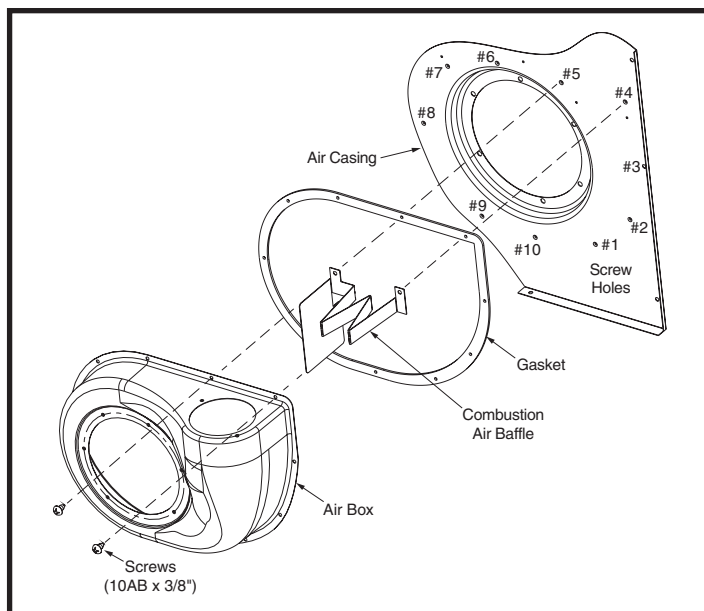

Figure 3. Combustion Air Baffle Assembly
1. Remove the 6 top and left screws (#'s 1,2,3,4,5, and 6) of the air box as shown in Figure 3.